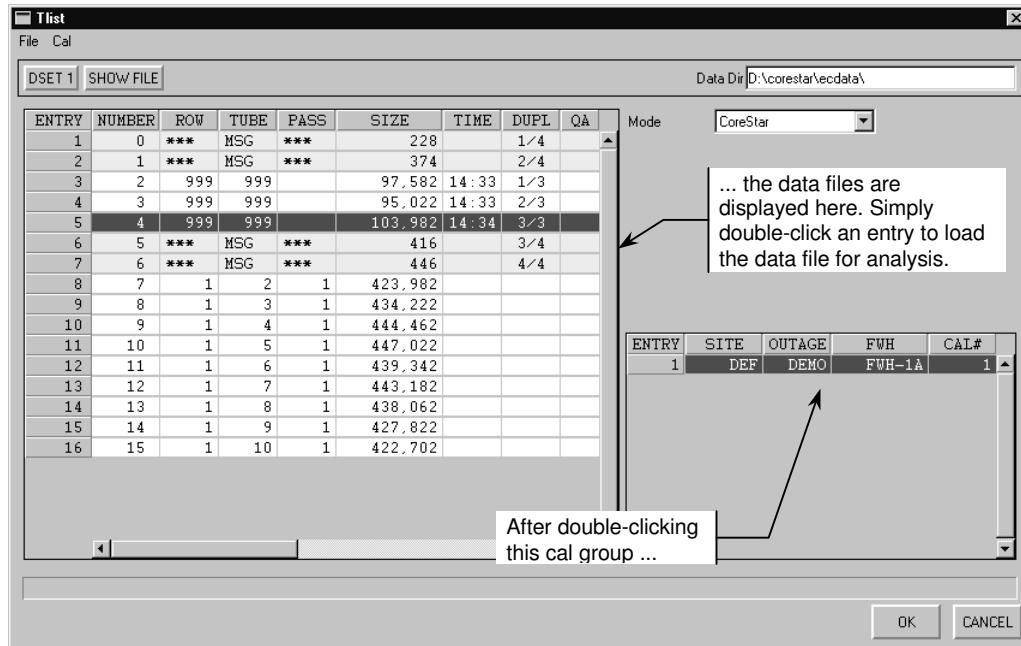
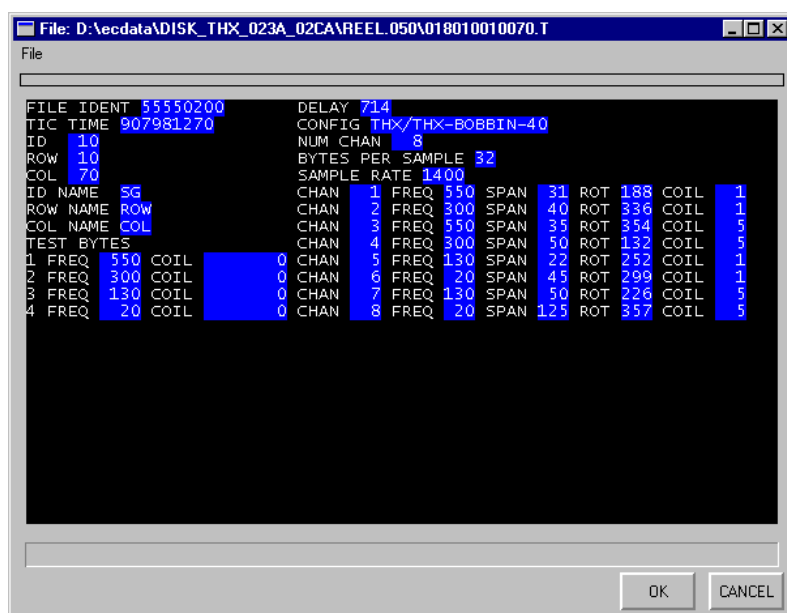

Figure 3-49. Opened Cal Group in TLIST Window
Figure 3-50. SHOW FILE Dialog
The **TLIST** shown in Figure 3-49 has more columns than the typical DDA-4 **TLIST** of the past. All the column names of the **TLIST** (left half of dialog) are listed below along with a description of each. Not all the columns are visible in Figure 3-49; however, the remaining fields can be viewed using the lower horizontal scroll bar.
DUPL	Indicates the number and total number of duplicate row and column entries. For example, Figure 3-49 shows that ENTRY #3 is the first of 3 calibration runs encoded as 999 999 within the opened cal group, i.e., 1/3.
1. The names of these columns vary based on the selected component file (.cmp). When .cmp files are created using the MakeComp software module, the names for ROW, COL, and SEC may be user-defined. Figure 3-49 shows these names as: ROW, TUBE, & PASS, which originate in the .cmp file for this example.
- ❑ **TLIST > DSET 1 Button:** The **TLIST** dialog in Figure 3-49 contains a button along the top of the dialog called **DSET 1**, abbreviation for data set. This button allows the user to open up to four (4) cal groups concurrently. This is handy when doing historical comparisons. The **TLIST** dialog initially defaults to **DSET 1**. To open another cal group in another data set, **Shift+click** the **DSET 1** button until the desired data set number appears. Next, open the additional cal group using the same method as previously described.
- ❑ **TLIST > SHOW FILE Button:** The **TLIST** dialog in Figure 3-49 contains another button along the top of the dialog called **SHOW FILE**. This function is only useful when analyzing ANSER-type data. Clicking the **SHOW FILE** button displays a typical ANSER header information dialog similar to the one shown in Figure 3-50 for the data file highlighted in the **TLIST**.